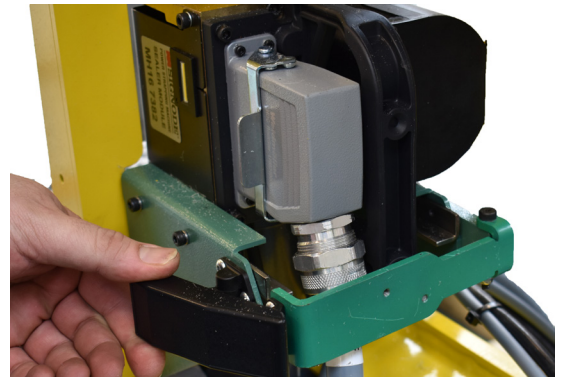

Figure 4-6: Latch Bar Clamp
1. To remove the Sealer Module, release Latch Bar Clamp and pivot Latch Bar open completely (**Figure 4-6**).